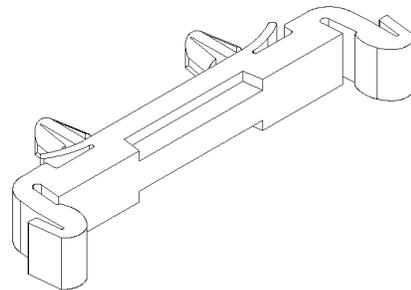

FIG. 5 DIN RAIL MOUNTING FOOT
- Step 1. Snap the DIN rail mounting feet into any of the two holes on the front panel of the electronic enclosure. (See Figs. 5 & 6)